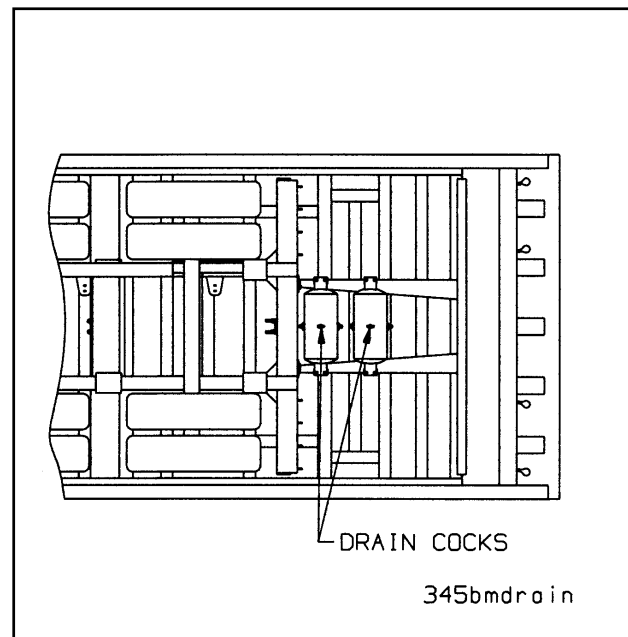

Figure 4-8 Drain Cock Locations
- d. Drain air reservoir daily. A drain cock on the bottom of each air reservoir vents the tank to drain collected water and oil. If held open, air pressure in the tanks is relieved, causing the emergency or parking brakes to be applied (**See Figure 4-8**).